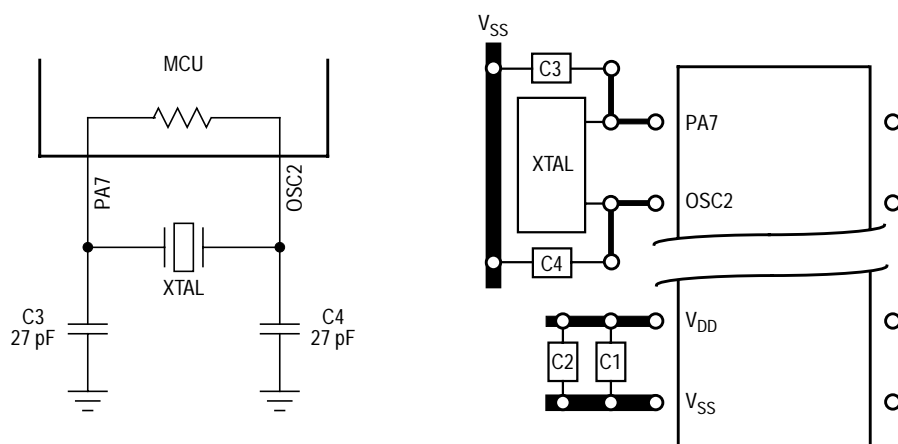
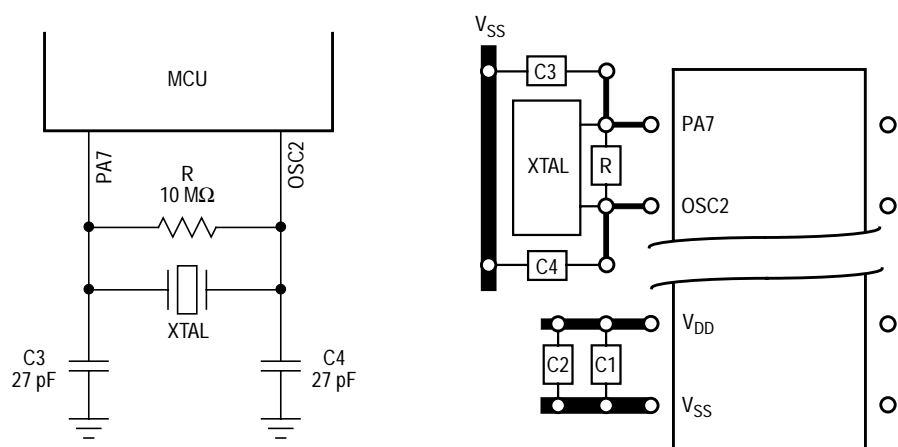

Figure 2-3. Crystal Connections with Oscillator Internal Resistor Mask Option
Figure 2-4. Crystal Connections without Oscillator Internal Resistor Mask Option
1. Standard crystal (See Figure 2-3 and Figure 2-4.)
Figure 2-3 and Figure 2-4 show a typical crystal oscillator circuit for an AT-cut, parallel resonant crystal. Follow the crystal supplier's recommendations, as the crystal parameters determine the external component values required to provide reliable startup and maximum stability. The load capacitance values used in the oscillator circuit design should include all stray layout capacitances.